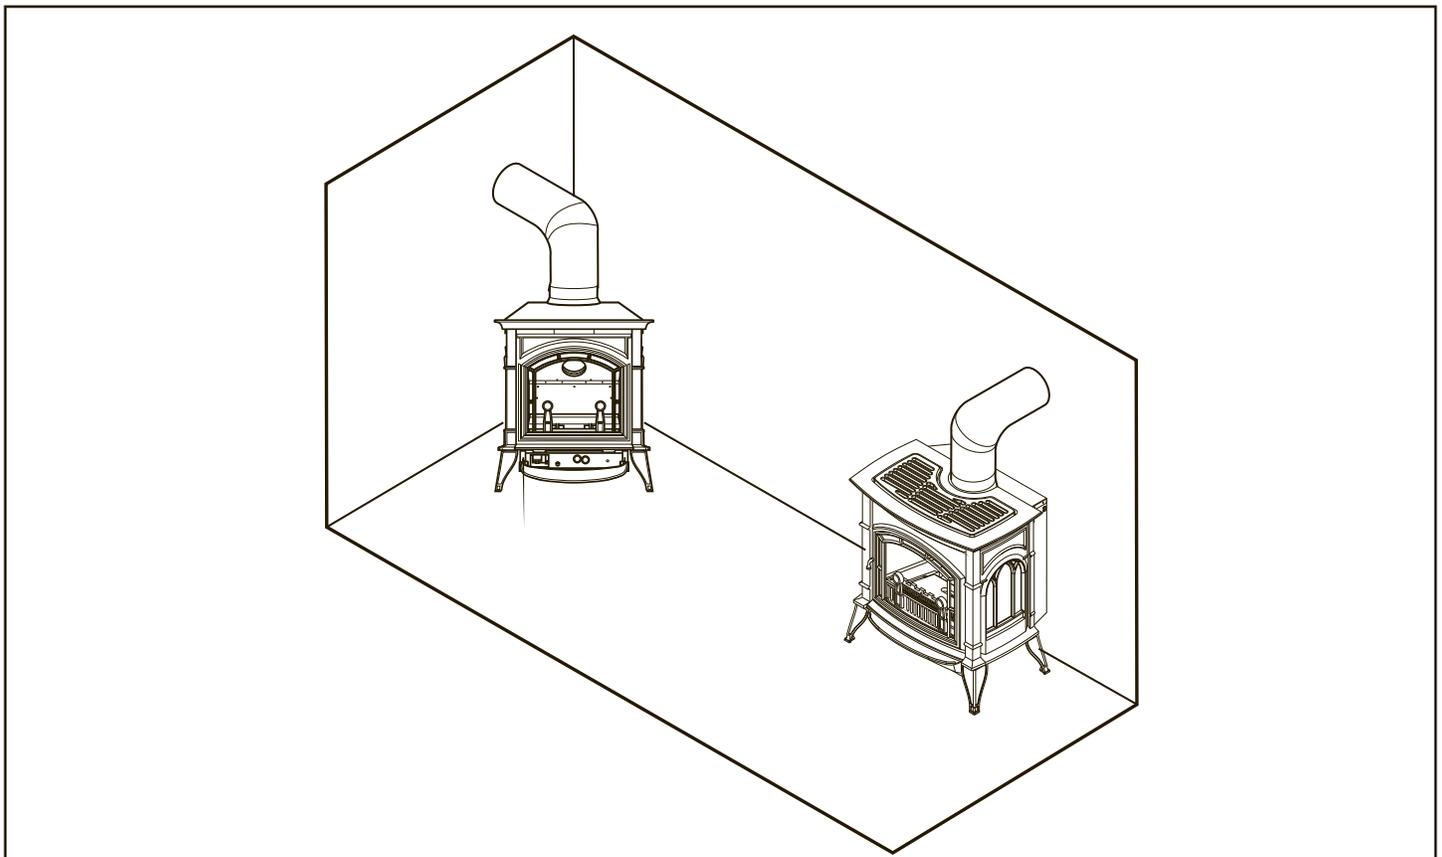

Figure 3 - Possible Stove Locations
- This stove may be installed along a wall, across a corner, or use an exterior chase. Refer to Figure 3 for suggested locations.